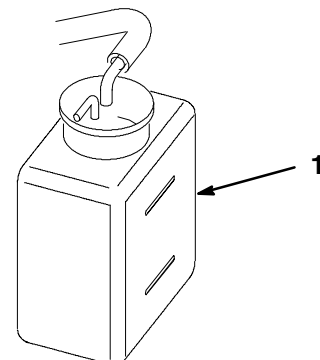

Figure 19
2. Check the coolant level (Fig. 19). It should be between the lines on the reserve tank when the engine is cold.